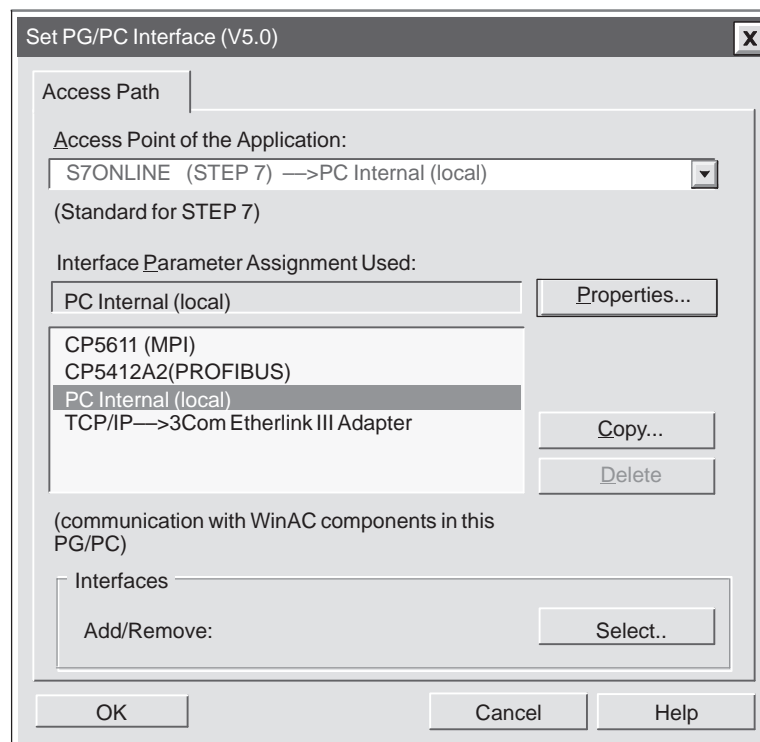

Figure 3-3 Setting the PG/PC Interface for PC Internal (local)
- From the “Access point of application” drop-down list, select **S7ONLINE (STEP 7)** (Figure 3-3).